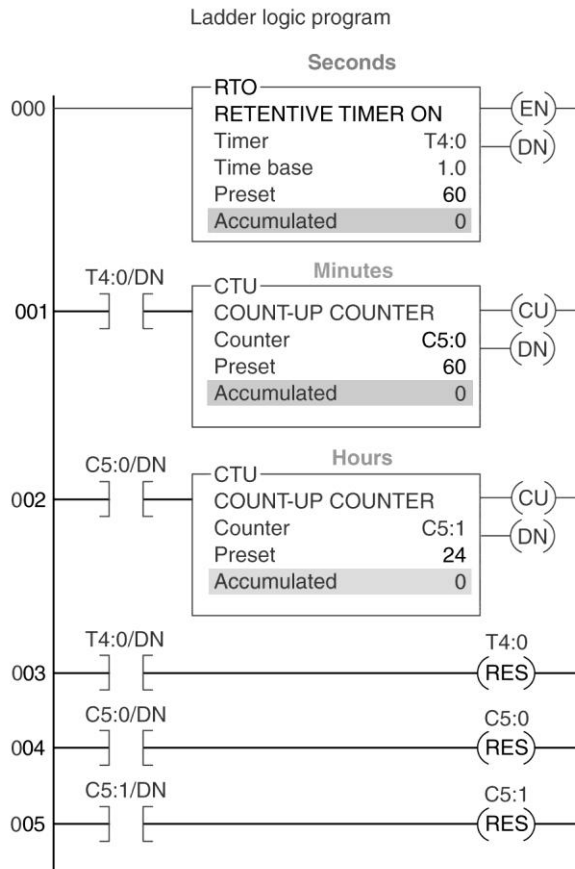

Figure 8-16 24-hour clock program for assignment 10.
10) The 24-hour clock program shown in Figure 8-16 is described in the text. Prepare an I/O connection diagram and ladder logic program for the application. Use addresses that apply to your PLC. Enter the program into the PLC, and prove its operation.